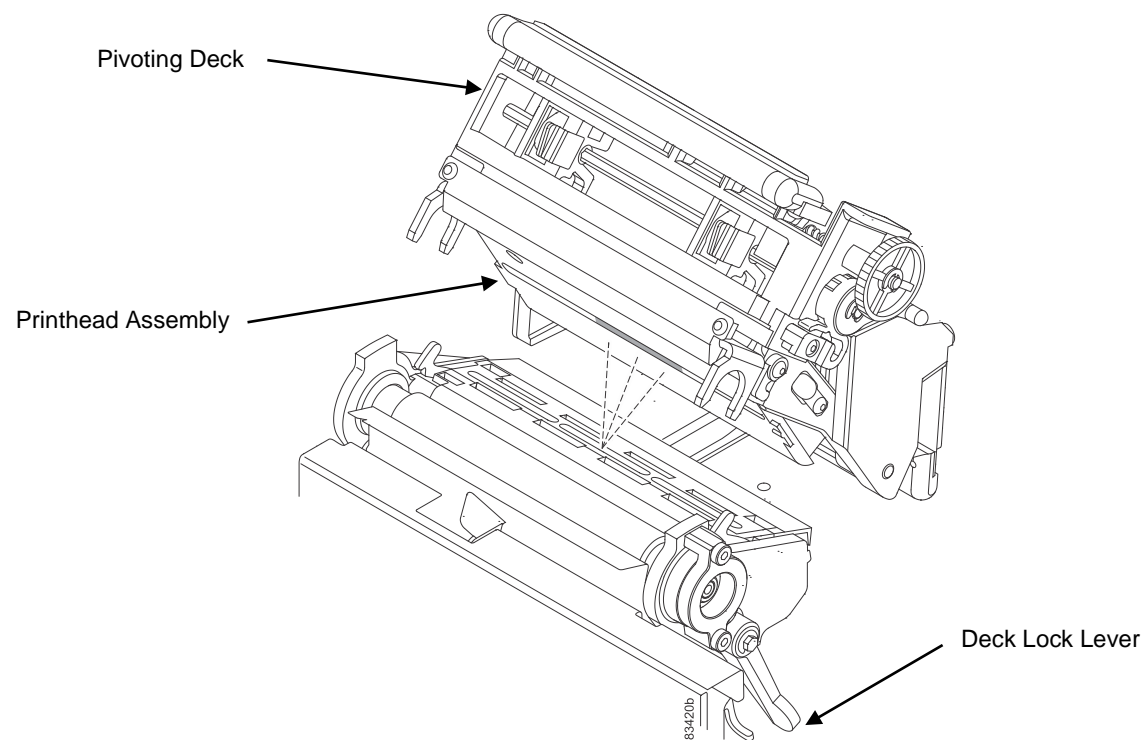

Figure 21 Opening the Pivoting Deck
3. Close the pivoting deck and rotate the deck lock lever fully counterclockwise. (*Figure 21*.)